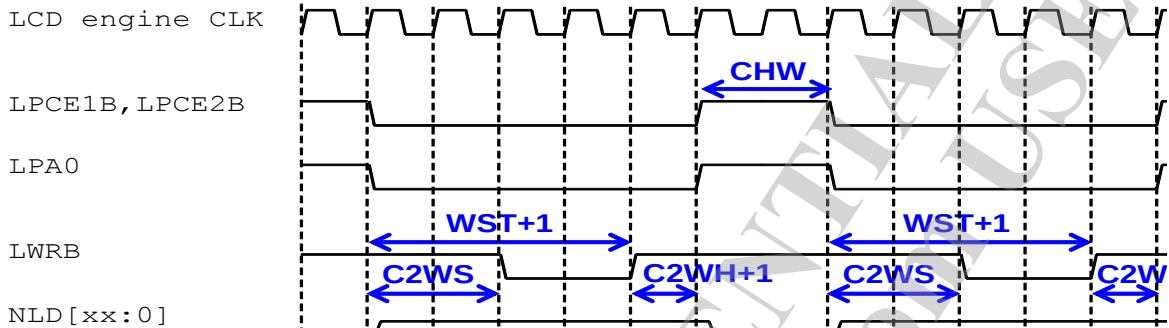

Figure 53. Interface write timing diagram
**WST**     Write wait state time. See Figure 53.
**C2WS**     Chip select (LPCEB0) to write strobe (LWRB) setup time. See Figure 53. **C2WS ≤ WST.**
**C2WH**     Chip select (LPCEB0) to write strobe (LWRB) hold time. See Figure 53.